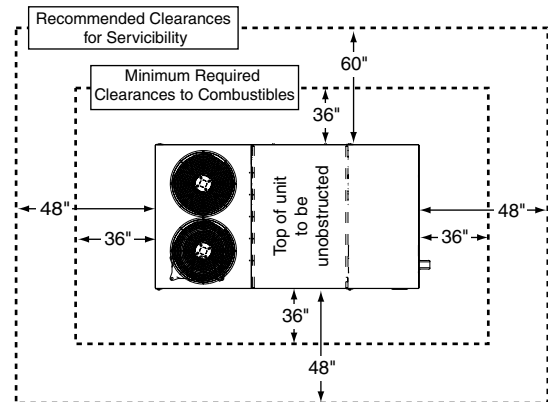

Figure 5. Unit Clearance Requirements
R6GP units are certified as combination heating and cooling equipment for outdoor installation only. Figure 5 (page 9) displays the minimum clearances to combustible materials for both Downflow and Horizontal discharge.
- Clearances must be in accordance with those shown in Figure 5.